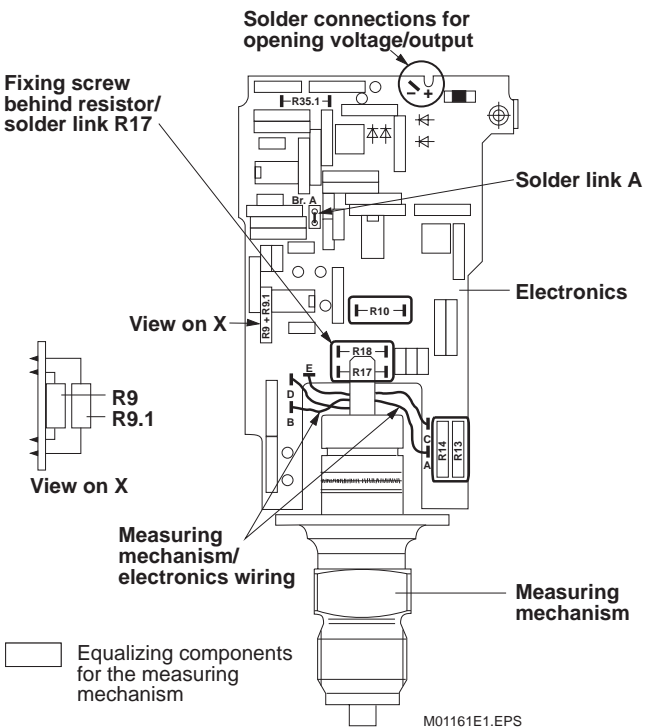

Fig. 29. Component side of the Measuring Mechanism / Electronic Unit
2. Unsolder the **wiring** between the measuring mechanism and the electronics on the electronic pcb (solder terminals A,B,C,D and E, see Fig. 29). Observe soldering instructions!
6. Resolder the **equalizing components for the measuring mechanism** (Fig. 29) from the defective electronic pcb onto the new one. Observe the soldering instructions.
7. If **resistor R9.1** is not soldered in on the defective electronic pcb (see Fig.29), then R9.1 is to be cut out of the new electronic pcb.
3. Unsolder R10, R17, R18 and either R13 or R14 (Fig. 29, equalizing components for the measuring mechanism) and loosen the **fixing screw** (Phillips screw, size 0 screwdriver) underneath R17. Lay the defective measuring mechanism on one side.
6. Solder the **equalizing components supplied with the measuring mechanism** into the corresponding places on the electronic pcb (Fig. 29, equalizing components for the measuring mechanism). Observe the soldering instructions!